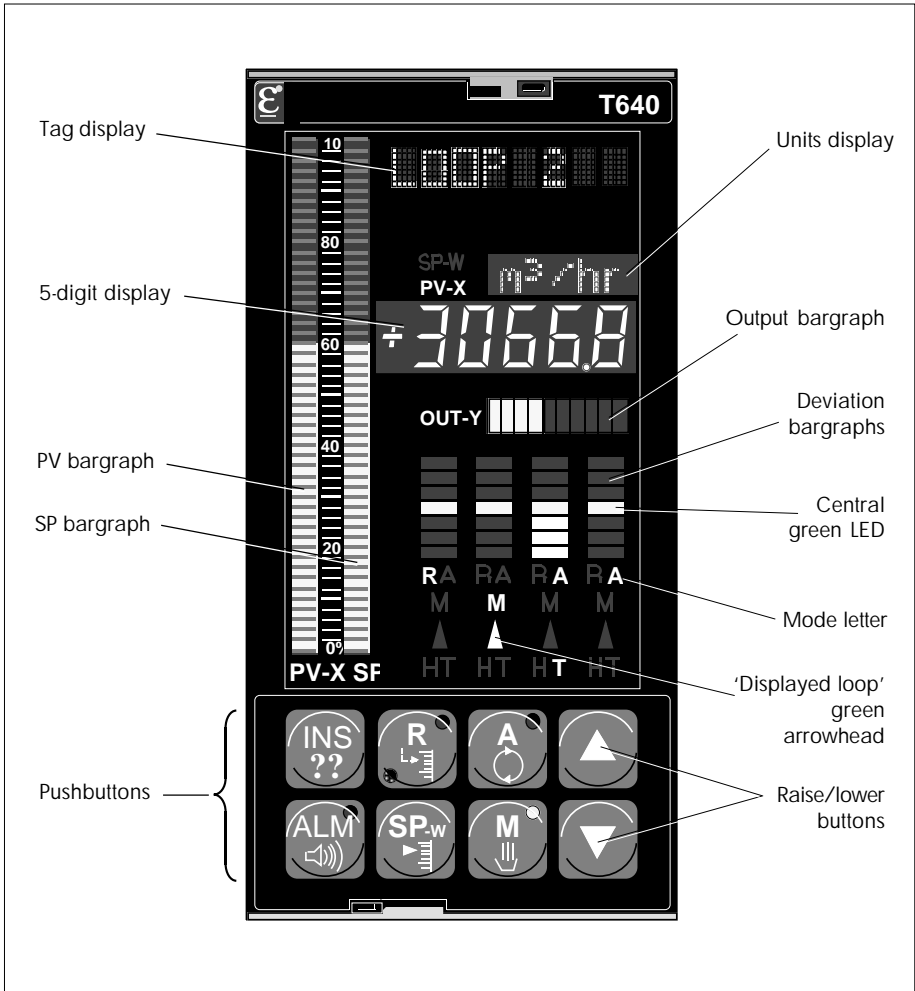

Figure 4-1 T640 front panel — the operator interface
Figure 4-1 shows the front panel, with a typical display.
Figure 4-1 shows the front panel. Four summary displays show red deviation bargraphs of T640's four loops — Loops 1 to 4 from left to right. *DevnBar*, in the SETPOINT block, specifies the bargraph span as ± 3 , ± 10 (default), or $\pm 30\%$ deviation. PV can be displayed instead, to 100% of range, if *DevnBar* = *Abs_PV*. The central green LED glows if the bargraph is showing deviation; the bottom red LED glows if PV is being displayed. A flashing bargraph means the loop is in absolute or deviation alarm.
Red display normally showing the *PV* value of the SETPOINT (or PID) block in engineering units. The **PV-X** legend (see Figure 4-1) glows red only when *PV* is being displayed.
- 2 Hold the key about 15cm from T640's front-panel, aiming the infrared LED at the **OUT-Y** legend to the left of the output bargraph (see Figure 4-1). The IR sensor is here behind the fascia. Press **INS**, then squeeze the key briefly to click the internal switch. If the security key is valid the tag display replies with **LOOP**, and loop access mode is entered. Invalid keys display **Bad Key**.